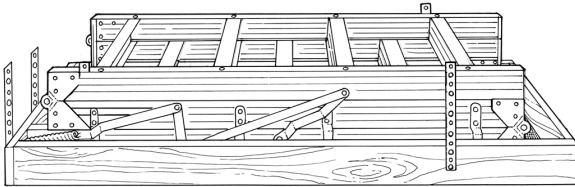

Figure 5
- Install metal E-Z hang straps to the folding attic ladder (See Figure 5 on next page) prior to lifting folding attic ladder into rough opening.